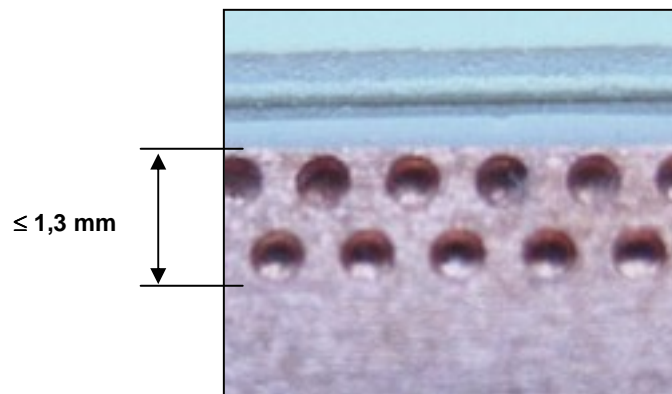

Fig. 1.2 Dimples in the MiniSKiiP bottom surface
- ◆ Etched dimples around the edges of the MiniSKiiP bottom surfaces (Fig. 1.2) are never below any IGBT- or Diode chip, thus there is no influence on the thermal resistance. The dimples have a diameter of approximately $\varnothing \approx 0.6$ mm and a depth of approximately 0.3 mm.